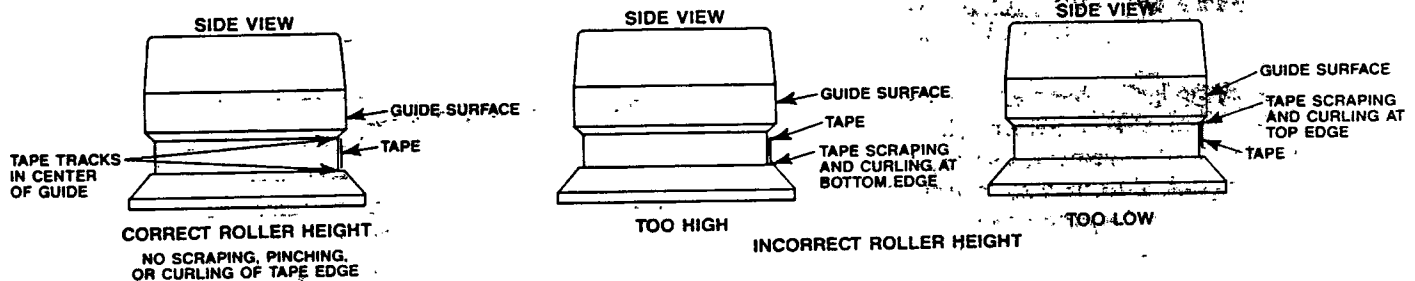

Figure 6-24. Tape Path Over the Roller Guides
or for some reason, the original adjustment of these parts is disturbed. Check the tape path over each of the roller guides referring to Figure 6-24. If the tape is riding smoothly through each of the guides without wrinkling, pinching or noise in FAST FORWARD or REWIND mode, then adjustment is not necessary.
STEP 5 Observe the tape path over the timer roller. The tape should ride in the center of the guide, and no scraping, noise should be detectable. Make sure that the tape rides smoothly over the guide by visual inspection (refer to Figure 6-24 Tape Path).
STEP 10 Observe the tape path over the roller guide and turn the guide alignment tool clockwise or counter-clockwise until the tape rides in the center of the roller guide and no scraping noise is detectable. Visually inspect that the tape rides smoothly over the roller guide (refer to Figure 6-24 Tape Path).
STEP 14 Observe the tape path over the S-Roller. The tape should ride in the center of the guide and no scraping noise should be detectable. Make sure that the tape rides smoothly over the guide by visual inspection (refer to Figure 6-24, Tape Path).